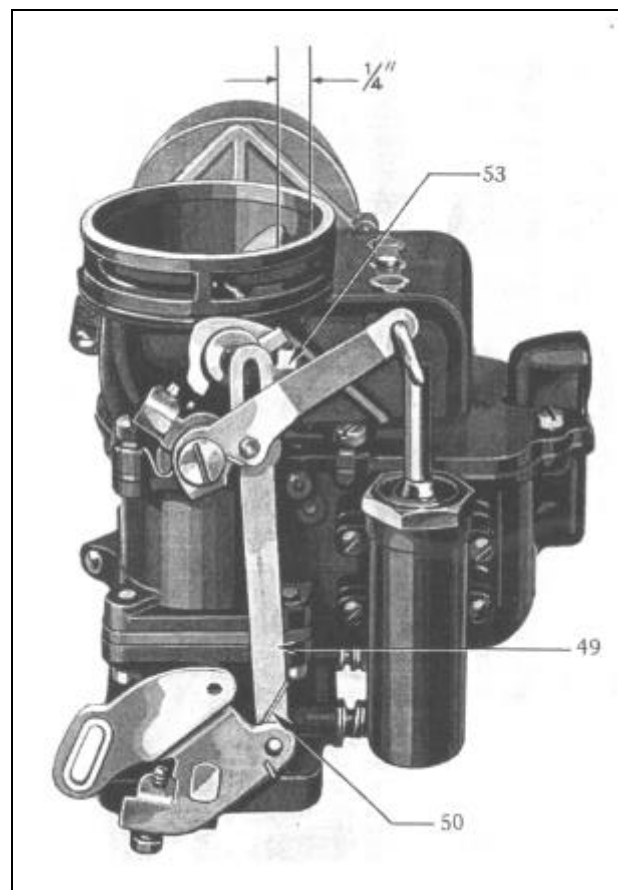

Figure 434
(148) With throttle wide open the distance between upper edge of choke valve and wall of air horn should be VI inch (Figure 434). Check with inch drill. Adjustment can be made by bending lip (53) on fast idle connector link. If unloader is adjusted properly, with throttle wide open move choker valve wide open and choker valve will be locked in wide open position. Closing the throttle will release choker valve. Choke: trip lever is notched out for this setting.